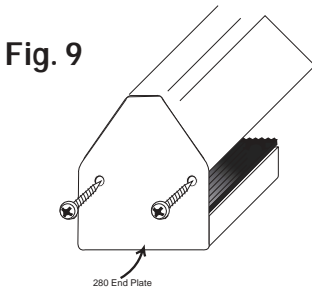

Fig. 9
Step 12: Screw fit the polycarbonate end plate (Ref. 280EP) onto the end of the 280 glazing bar (Fig. 9).